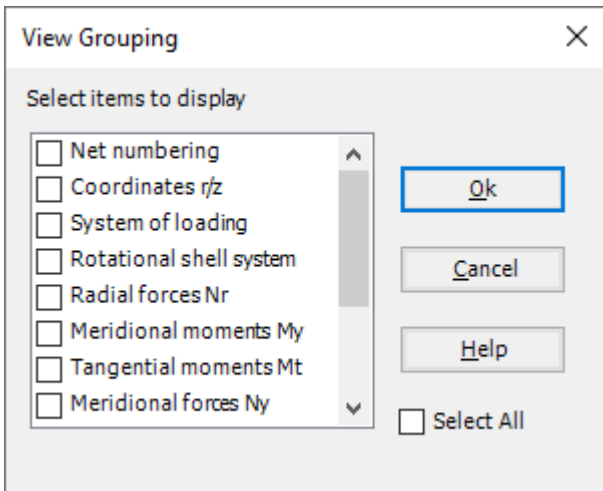

Figure 12.34 "View Grouping" check group box
- The "View Grouping" check group box in Figure 12.34 appears